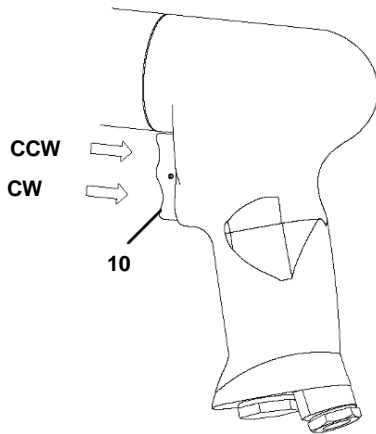

Fig. 5: Switching pistol screwdrivers on/off
The direction of rotation is controlled by pressing the respective part of the trigger (10) (see Fig. 5:).